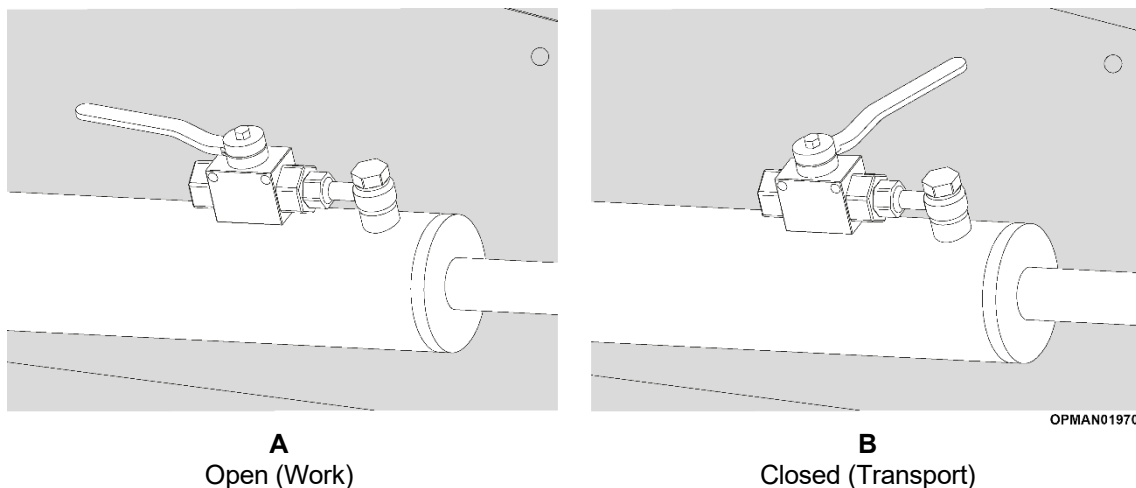

Figure 13
- During “work” the tap on cylinder needs to be in the “open” position; see Figure 13 (A).
- During “transport” the tap on cylinder needs to be in the “closed” position; see Figure 13 (B).